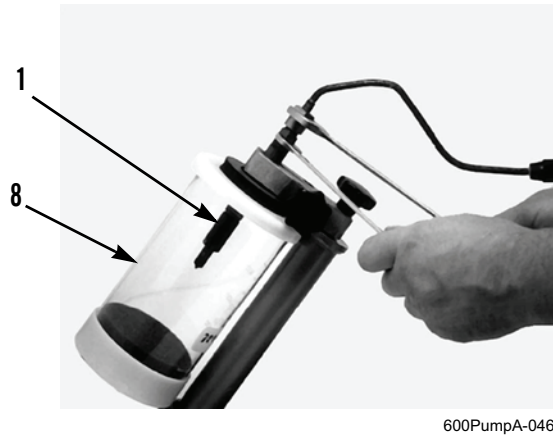

Figure 3. Collector Cup of Nozzle Tester.
2. Install fuel injector (Figure 3, Item 1) in collector cup (Figure 3, Item 8) of nozzle tester.
11. If a drip falls from fuel injector (Figure 3, Item 1), fuel injector must be replaced.
12. Remove fuel injector (Figure 3, Item 1) from collector cup (Figure 3, Item 8) nozzle tester.